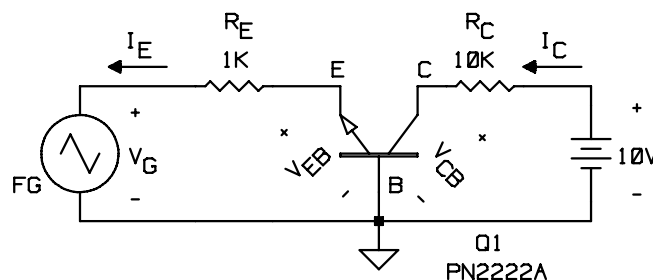

Fig. 2. Common-base circuit.
Connect the common-base circuit of Fig. 2.
3. Parts 1-3 of the procedure for Fig. 2 produced waveforms of v_G , v_{CB} , and v_{EB} vs. time. Define the terms "active," "saturation," and "cutoff" with regard to a BJT. Using your recorded waveforms, indicate which portions of the waveforms correspond to each of these modes of the BJT. Use the recorded waveforms to deduce approximately what the corresponding waveforms for i_E and i_C would be, and either sketch or describe these.
5. Predict the result of operating Fig. 2 with the emitter lead of Q1 disconnected, but the collector loop intact. What would be i_C and v_{CB} ?